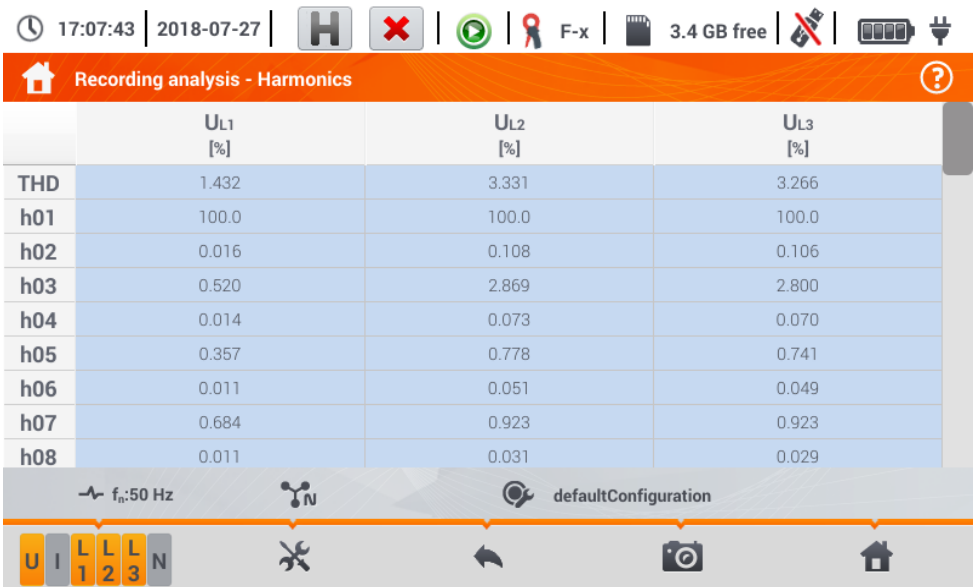

Fig. 5.24. Live mode - harmonics - tabular view
- switching to tabular view of harmonics (Fig. 5.24). Each row in the table displays the values of harmonics (harmonics up to the 40th and additionally for the [%] mode – also THD)